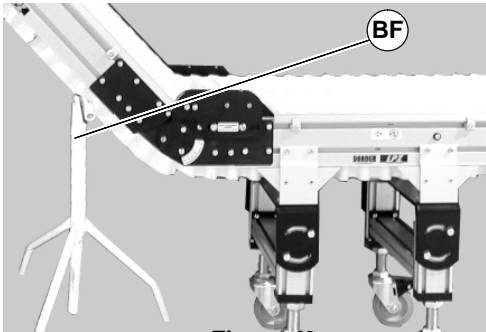

Figure 49
- Place temporary support (BF of Figure 49) under conveyor sections.